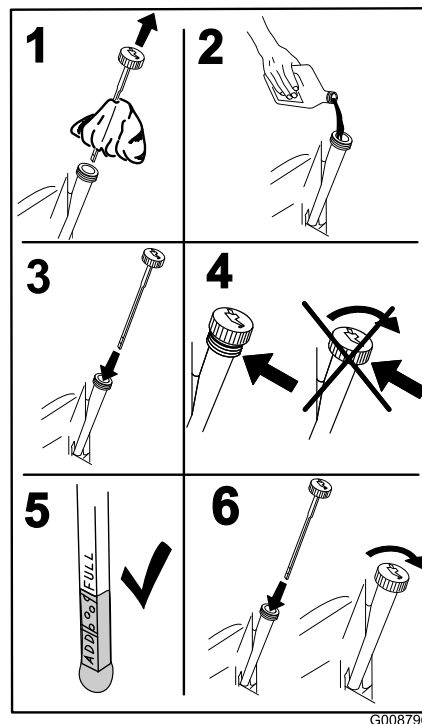

Figure 44
5. Slowly pour approximately 80% of the specified oil into the filler tube and slowly add the additional oil to bring it to the **Full** mark (Figure 44).